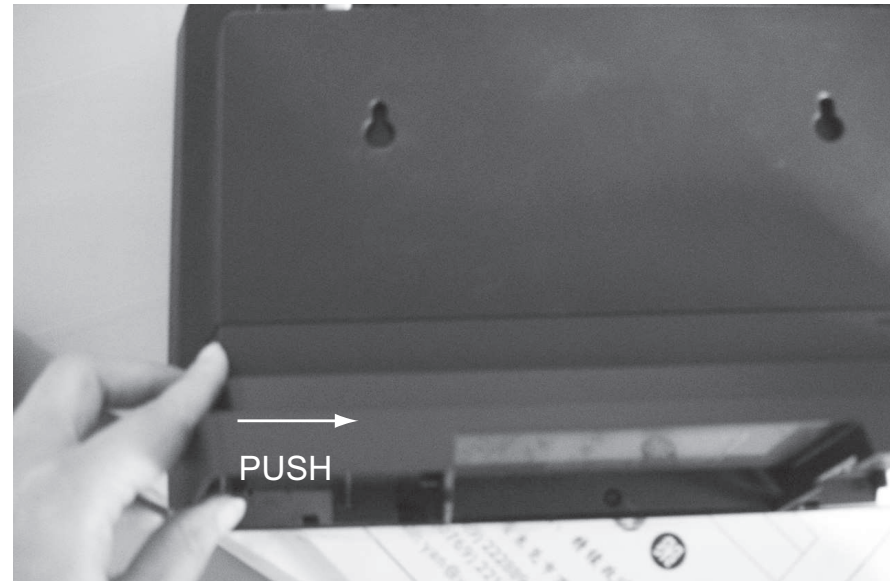

Figure 1
- 1) Push the base support to the right will remove it as shown in figure 1.